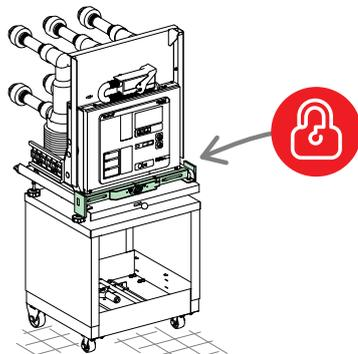

Figure 71
- The VCB is OFF and discharged position. Refer to Figure 71 in Insertion of the EvoPacT HVX VCB into the Cubicle, page 82.